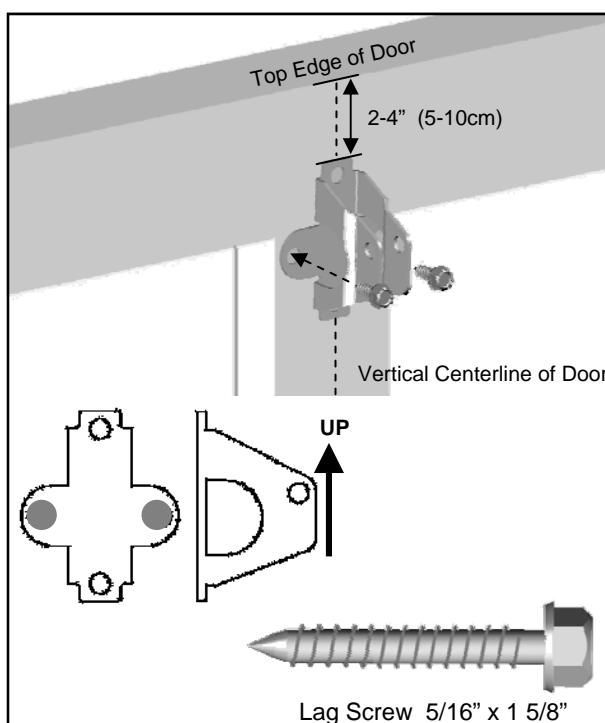

Fig.2
1. Position the Door Bracket on the centerline of the door approximately 2" - 4" (5-10cm) below the top edge of the door. Secure the Door Bracket with 5/16" x 1 5/8" Lag Screw (provided) as shown in Fig.2.